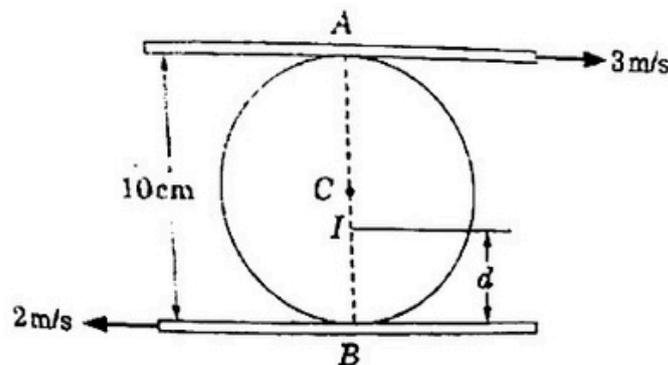

Figure 10
- (b) A roller of radius 5.0 cm rides between two horizontal bars moving in the opposite directions as shown in figure 10. Calculate the distance 'd' defining the position of instantaneous centre of rotation of the roller. Assume no slip conditions at the point of contact  $A$  and  $B$ . (3)